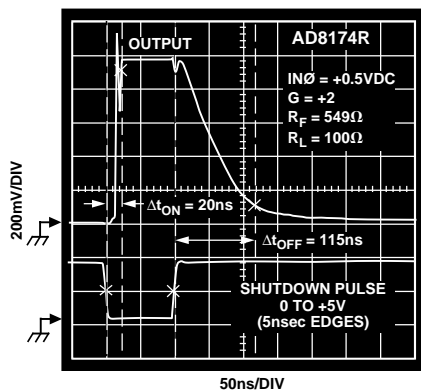

Figure 6. Shutdown Switching Characteristics
3AD8174 only.  $\overline{\text{ENABLE}}$  pin is grounded. Shutdown (SD) pin is driven with 0 V to +5 V pulse (5 ns rise and fall times). State of A0 and A1 logic inputs determines which channel is activated (i.e., if A0 = Logic 1 and A1 = Logic 0, then IN1 input is selected). Set IN0 (or IN2) = +0.5 V dc, IN1 (or IN3) = -0.5 V dc, and measure transition time from 50% of SD pulse (+2.5 V) to 90% of the total output voltage change. In Figure 6,  $\Delta t_{\text{OFF}}$  is the shutdown assert time,  $\Delta t_{\text{ON}}$  is the shutdown release time.